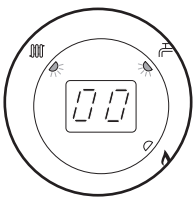

Fig. 86
6. The display will show '00', indicating maximum rate, then revert to 'P' alternating with the current boiler temperature (Figs. 86, 87 & 88).